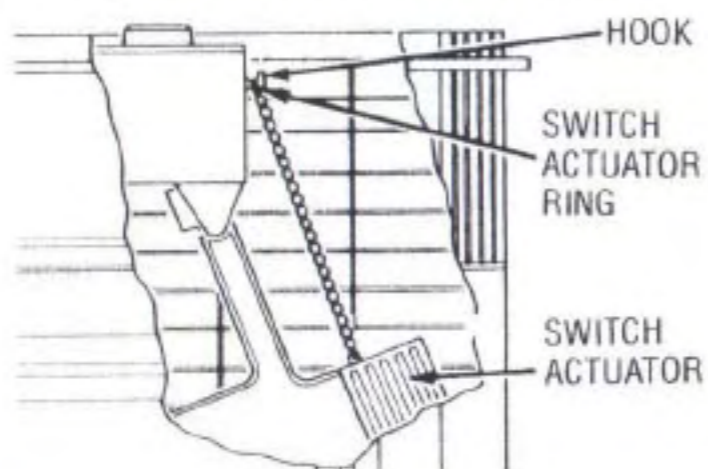

Figure 10
- Loop the switch actuator ring around the plastic hook located directly above the switch actuator (Figure 10).
- When unit is dry, release switch actuator ring (Figure 10) and shut the unit off.